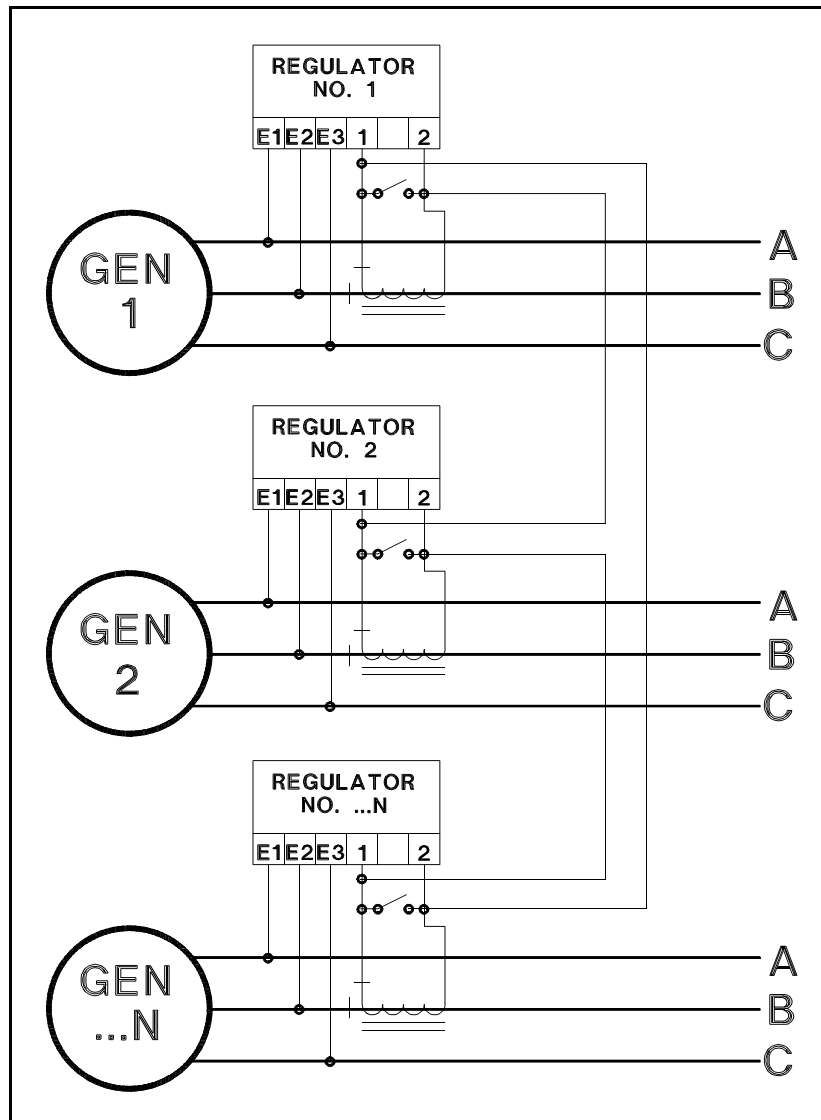

Figure 4-5. Cross-Current Compensation CT Connection.
c. Reactive differential compensation allows two or more paralleled generators to share inductive reactive loads with no decrease or droop in the generator system voltage. These regulators provide the necessary circuit isolation so that parallel cross-current compensation can be used. This is accomplished by the action and the circuitry described previously for parallel droop compensation, and the addition of cross connecting leads between the parallel CT secondaries as shown in Figure 4-5. By connecting the finish of one parallel CT to the start of another, a closed series loop is formed which interconnects CT's of all generators to be paralleled. The signals from the interconnected CT's cancel each other when the line currents are proportional and in phase. If this type compensation is used, it is *mandatory* that all regulators used in the paralleling network have the same type paralleling circuit. It is also necessary that all generators supplying power to that bus be included in the interconnection circuit.
- (5) If parallel cross-current compensation (reactive differential compensation) is desired, make the same installation connections as previously described and illustrated in Figure 4-2, 4-3, or 4-4. Then interconnect with the cross-current loop as shown in Figure 4-5 and as described in paragraph 2-8c.